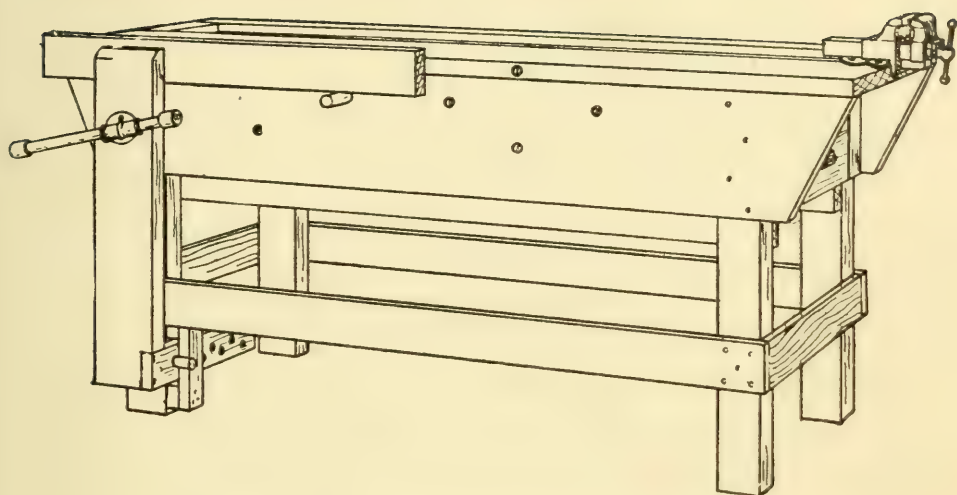
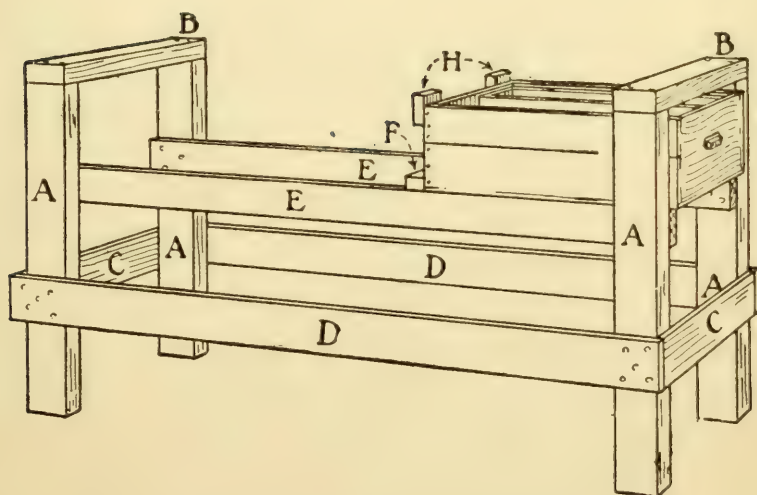
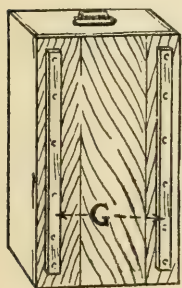

FIG. 6. — A Work Bench with Tool Drawers.
FIG. 7. — Detail of Framework.
FIG. 8. — Box
Figure 6 shows
**A Work Bench with Tool Drawers**, which is almost as simple to make as the one just described. The drawers are grocery boxes and slide into the ends of the bench on the upper rails of the framework (Fig. 7). The bench
illustrated is 6 feet long, 24 inches wide, and 2 feet 8 inches high, but as mentioned before you may change these dimensions to suit your conditions, and if you prefer to make a cabinet for your tools instead of keeping them in the bench, the drawers may be used to hold supplies. Figure 7 shows the framework of the bench. Make the end frames as described for the other bench, fasten them 4 feet 2 inches apart with the front and back rails *D*, and then cut the upper rails *E* which form the drawer slides and nail them to the legs 8 inches below crosspieces *B*. If you cannot find boxes of the proper size for
removable trays, such as are described for the tool-chest shown in Fig. 43, page 31. Nail two guide strips (*G*, Fig. 8) to the bottom of the drawers and fasten an iron drawer-pull or a wooden handle to the front. Then nail two striking blocks to the back (*H*, Fig. 7) to prevent the drawers from pulling out of the bench, and two cross-pieces (*F*) in the proper places to stop the drawers when they have been pushed in flush with the ends of the bench. Figure 6 shows